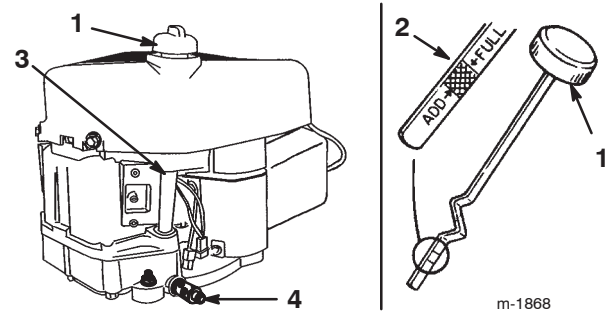

Figure 18
7. Clean around the oil dipstick (Fig. 18) so that dirt cannot fall into the filler hole and damage the engine.
8. Unscrew the oil dipstick and wipe the metal end clean (Fig. 18).
9. Screw the oil dipstick fully onto the filler tube (Fig. 18).
12. Clean around the oil dipstick and unscrew the cap (Fig. 18).
13. Slowly pour approximately 80% of the engine oil into the filler tube (Fig. 18). Refer to Servicing the Engine Oil on page 23.